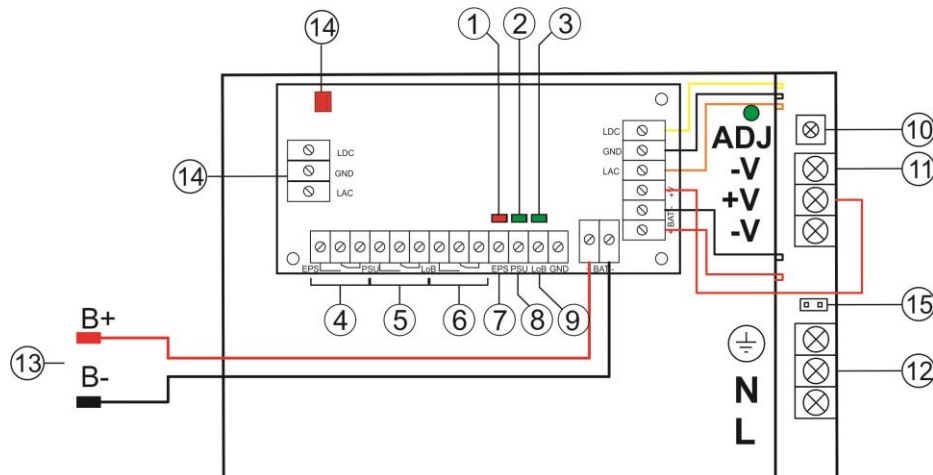

Fig. 2. The view of the PSU.
Table 1. Elements of the PSU (see fig. 2).
- red LED (Fig.2, element 1) normal status (AC power): permanently illuminated. AC power absence is indicated by the AC diode going out.
- green LED (Fig.2, element 2) indicates DC power at the PSU output. Under normal status the diode is permanently illuminated. In case of a short circuit or an overload, the diode is off.
- green LED (Fig.2, element 3) indicates battery voltage level. Under normal status ($U_{BAT} > 23V$) the diode is permanently illuminated. In case of decrease of battery voltage ($U_{BAT} < 23V$) the diode is off.
CAUTION! In Fig.2. the contact set in the potential-free status corresponds to a state with no AC power (AC power failure).
CAUTION! In the Fig.2. the set of contacts shows a potential-free status of the relay which corresponds to a state with no DC power (PSU failure).
CAUTION! In the Fig.2. the set of contacts shows a potential-free status of the relay which corresponds to a state with low battery level ($U_{BAT} < 23V$).